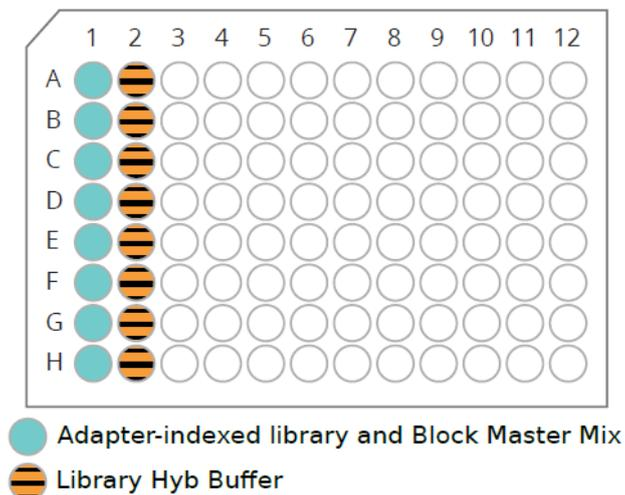

Figure 5. Library Hyb Buffer in “Column 2”.
- c. Once the temperature of the thermal cycler reaches 65°C, place the previously prepared **Library Hyb Buffer tube (Step 2b)*** into the thermal cycler (e.g. column 2, see Figure 5) and incubate at **65°C for 3 minutes**.